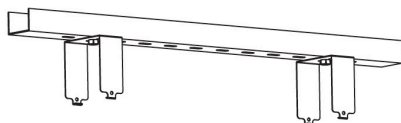

Figure 4
- Step 1. Mount the bracket on the rail or ceiling (Figure 4)